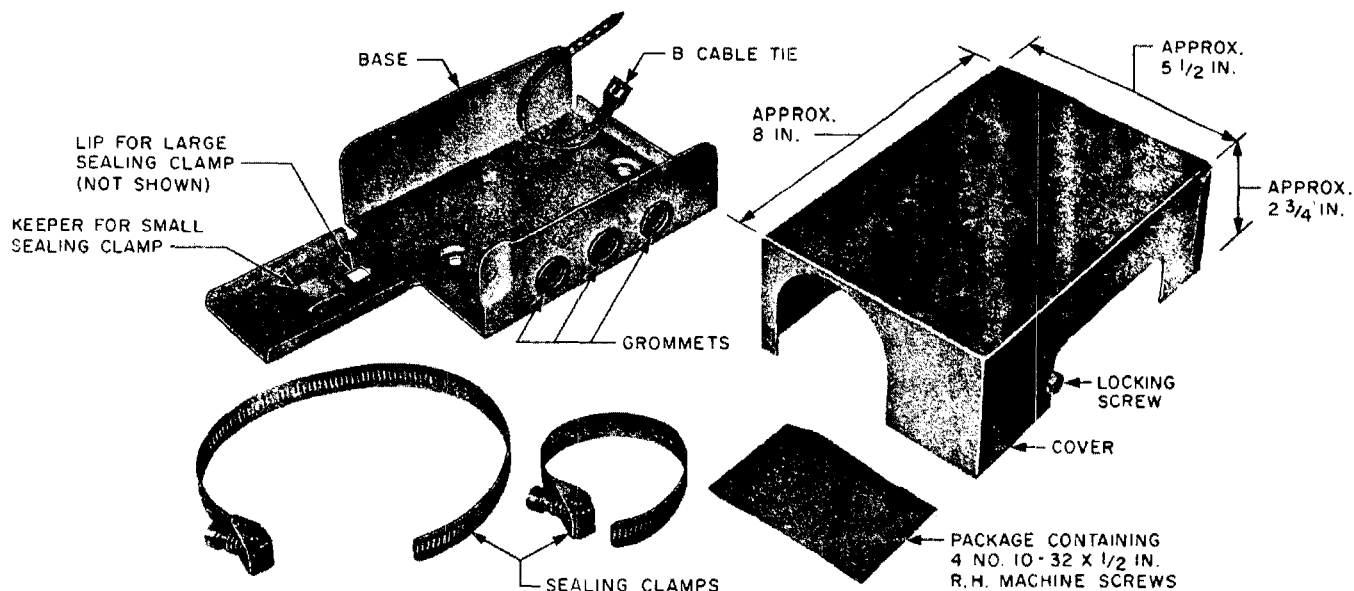
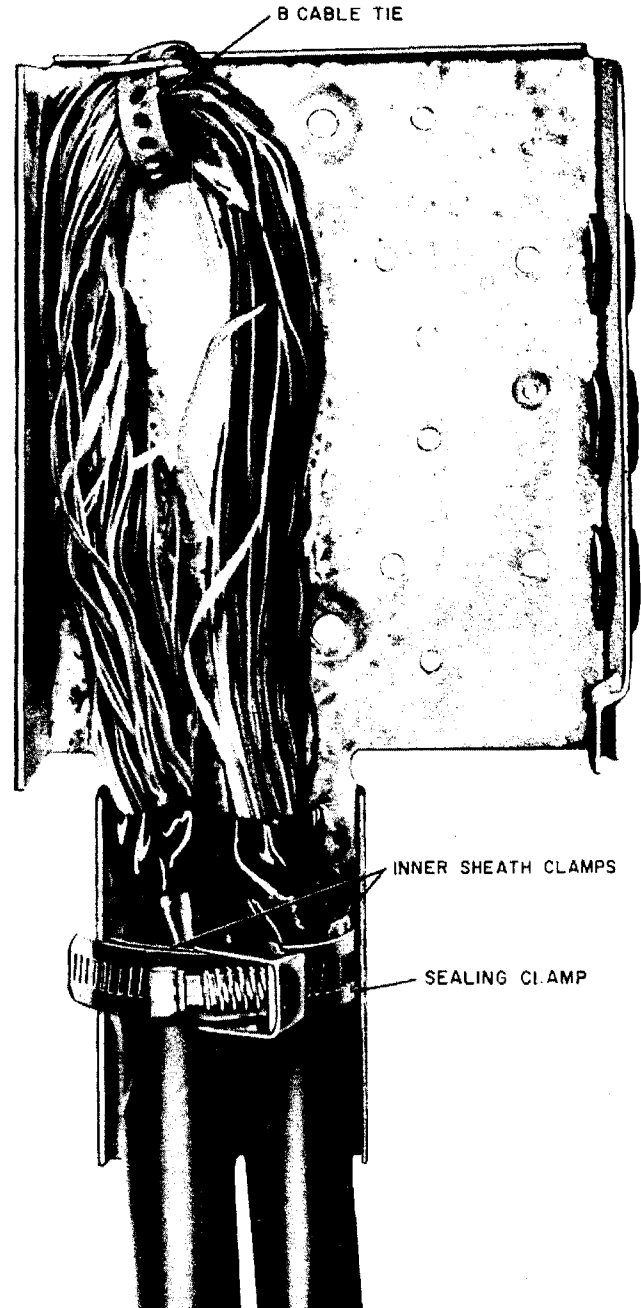

Fig. 1—3A1 Closure and Furnished Parts
Fig. 6—3A1 Closure in Place Without Cover and U-Guard
2.01 The 3A1 Closure, illustrated in Fig. 1, consists of a base provided with a B Cable Tie, three grommets, and a cover. The cover has a locking screw for securing it to the base. Two sealing clamps and four No. 10-32 by 1/2-inch machine screws (packaged) are provided with each closure.
5.01 Place the small sealing clamp through the keeper on the base (Fig. 1). Tighten the clamp on the cable butts and inner sheath clamps, as shown in Fig. 6. Make sure that the sealing clamp screw is centered on the cable loop, as illustrated in Fig. 6, to permit proper mounting